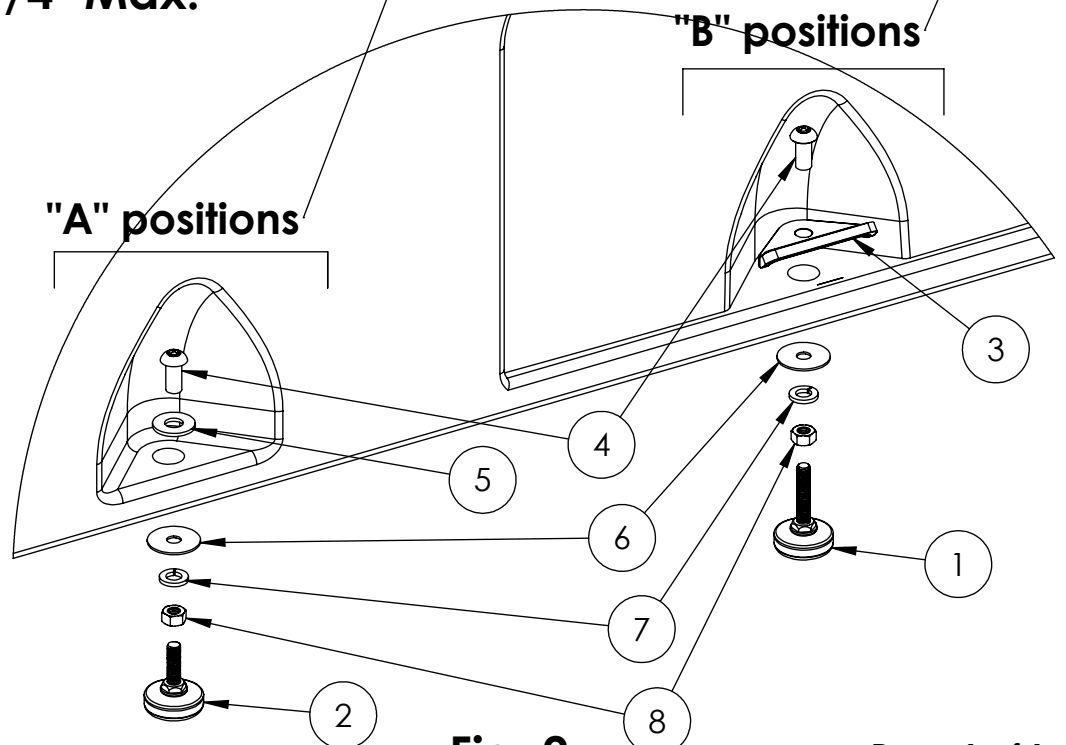

Fig. 2
2. Assemble the components in the sequence shown in (**Fig. 2**).